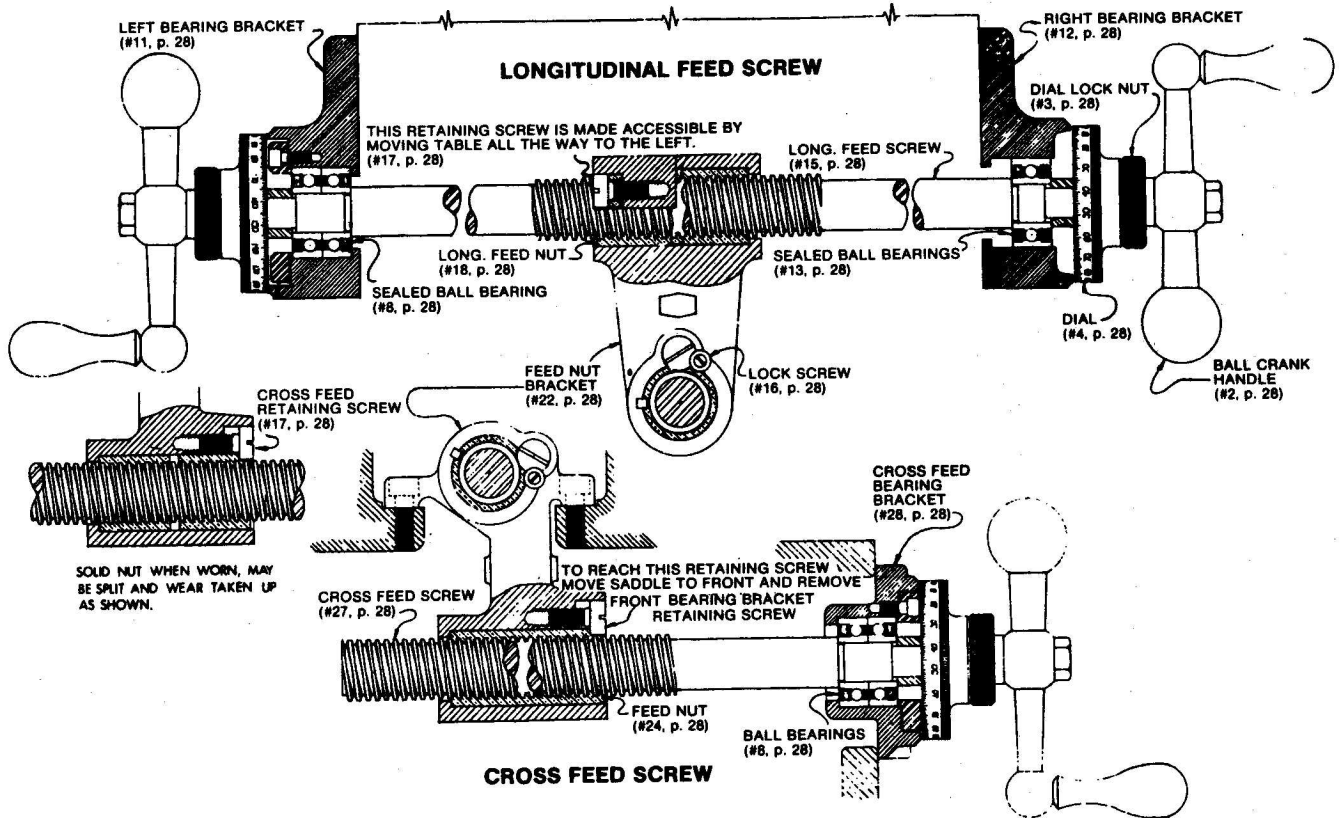

Figure 9, Longitudinal and Crossfeed Assembly
**REMOVING TABLE.** Remove as follows: ball crank handles, dial holders, bearing brackets. Lead screw will then turn all the way out so it can be removed. When this is accomplished, the table can easily be taken off by sliding it from the saddle. See Figure 9.
**REMOVING SADDLE.** Follow along the same lines as removing table; however, it is necessary to remove the entire front bracket assembly. Next, remove the cross feed nut bracket which is made accessible by removal of the table. See Figure 9.